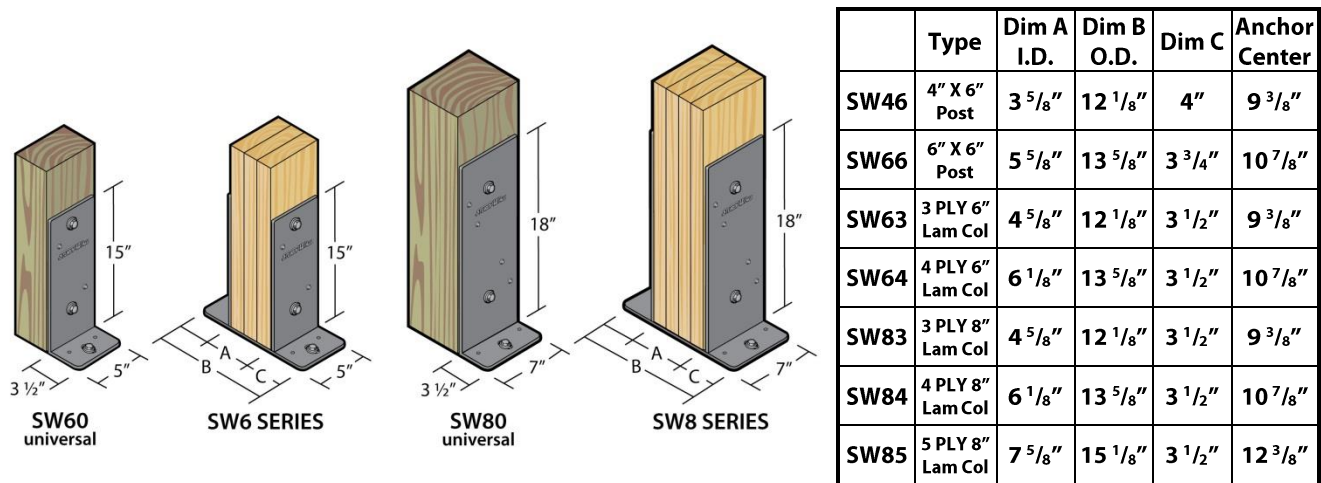
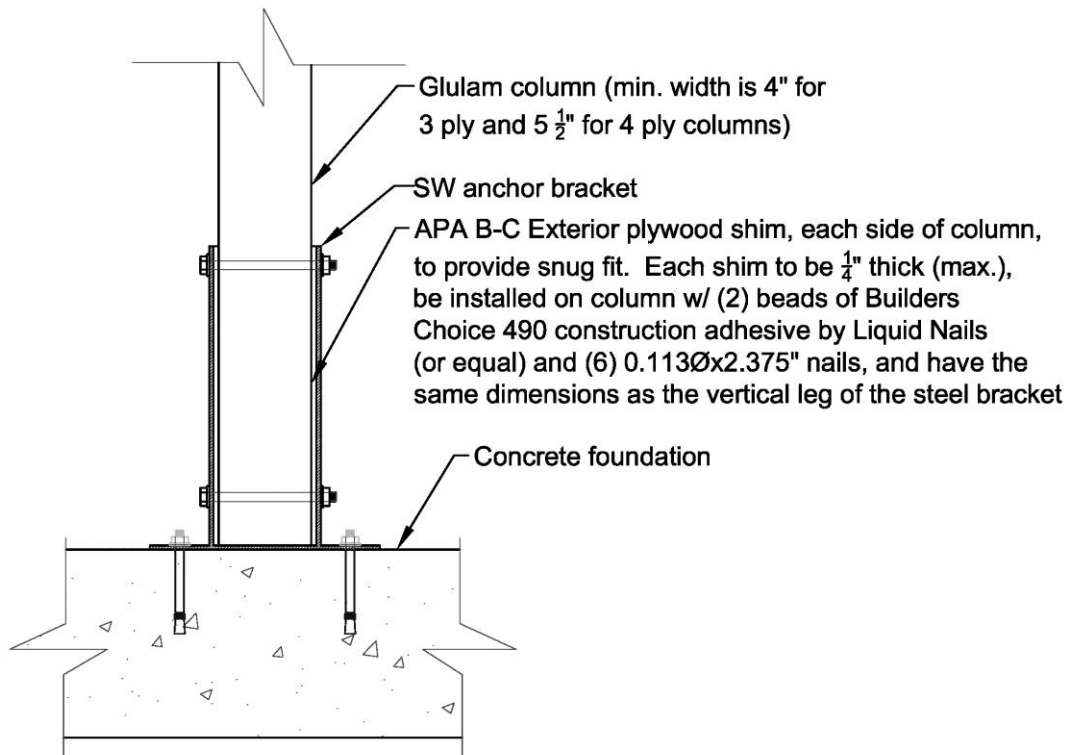

Figure 2.1: Sturdi-Wall Descriptions
Figure 2.2: Sturdi-Wall Shim Detail
Dimensions for the SW60, SW46, SW66, SW63, SW64, SW80, SW83, SW84, and SW85 are given in Figure 2.1. The brackets are constructed with 1/4" structural steel plate with a minimum yield strength of 40 ksi, and 1/4" fillet welds of E70XX electrodes. Each assembly has a proprietary powder coat finish. The SW46 is to be used with a 4x6 wood post, SW66 with a 6x6 wood post, SW63 with a 3-ply 2x6 mechanically laminated column, SW64 with a 4-ply 2x6 laminated column, SW83 with a 3-ply 2x8 laminated column, SW84 with a 4-ply 2x8 laminated column, and SW85 with a 5-ply 2x8 laminated column or 8x8 wood post. The inside dimension of the brackets allow for an 1/8" total tolerance between the steel bracket and wood column. Glued laminated columns are acceptable; however, appropriately sized wood shims need to be added on both sides of the pocket to provide a snug fit as shown in Figure 2.2 (1/8" total tolerance is acceptable). **The shim should be APA B-C Exterior plywood (or equivalent), no more than 1/4" thick, and have the same dimensions as the vertical leg of the bracket. The shim should be fastened to the column with 2 beads of Builders Choice 490 construction adhesive by Liquid Nails (or equal) and (6) 0.113"x2.375" nails.** The single brackets (SW60, SW80) shall be used as pairs and fastened using the same connectors as the fully assembled brackets.